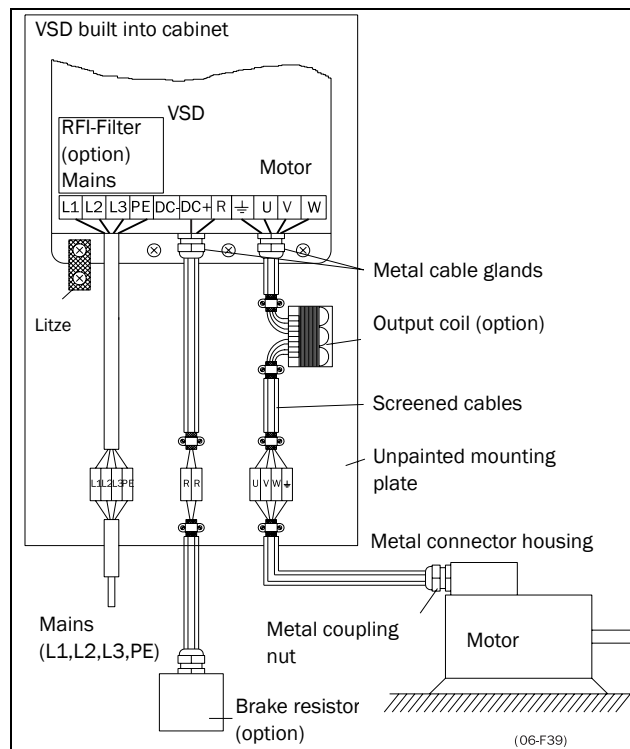

Fig. 21 Variable speed drive in a cabinet on a mounting plate
If the motor cables are to be interrupted by maintenance switches, output coils, etc., it is necessary that the screening is continued by using metal housing, metal mounting plates, etc. as shown in the Fig. 21.
- If the variable speed drive is mounted in a standard cabinet, the internal wiring must comply with the EMC standard. Fig. 21 shows an example of a VSD built into a cabinet.